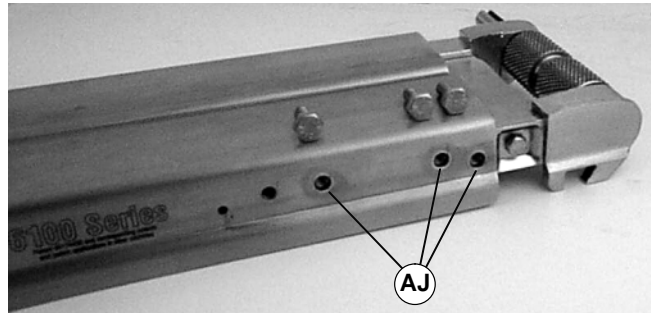

Figure 28
3. Remove three (3) screws (AJ of Figure 28) on the side opposite the drive shaft.